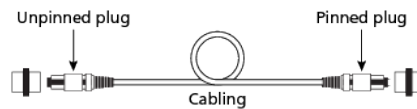

Figure 2. Unpinned plug and pinned plug on ends (permanent link)
- unpinned on one end and pinned on the other end of the cabling (see Figure 2),